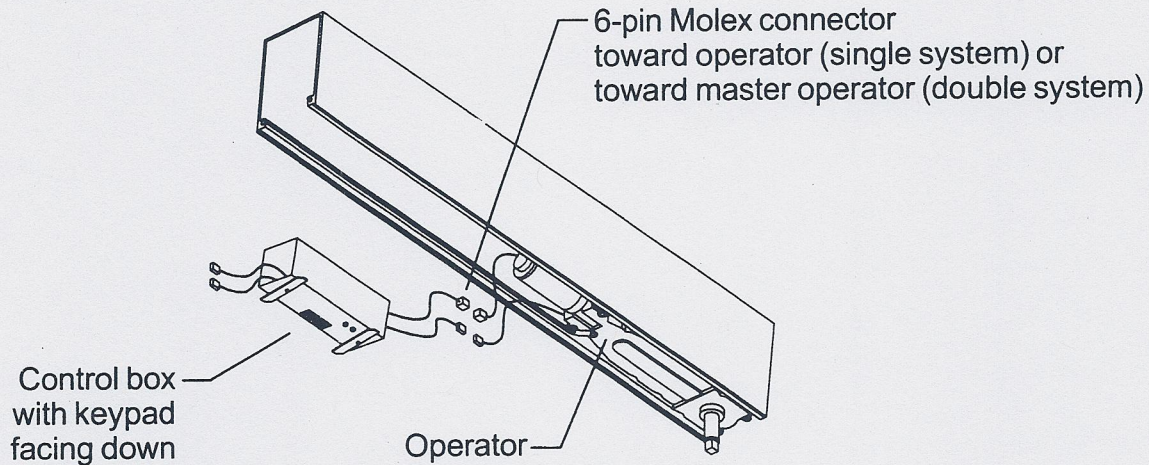

Figure 8-1
- 8.1. Orient the control box so the keypad faces down and the 6-pin Molex connector faces the operator for a single system or the master operator for a double system (Figure 8-1).